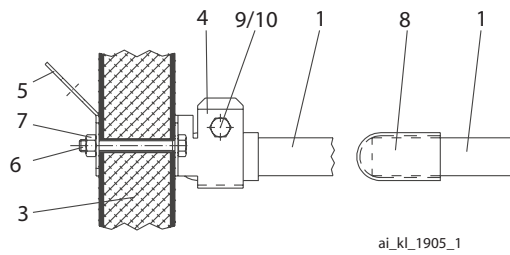
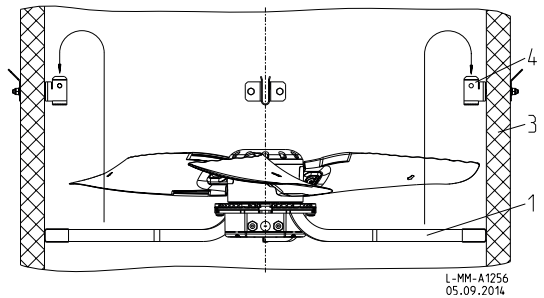

Figure 2
figure 3
Tighten the mounting bracket (4) and the support bracket (5) **fig. 2** with screws (6) only so far that the mounting bracket and support bracket do not dig into the chimney wall (3).
Self-locking nuts (7) are used for securing the screws. The enclosed protective caps (8) are to be pushed onto the ends of the fan supports (1), **fig. 2**.
Feed the fan (1) into the chimney in accordance with **fig. 3**, and center it in the mounting bracket (4). In addition, the support is to be secured in accordance with **fig. 2** by using bolts (9/10). The four support clamps (5) are used as support eyelets for additional fixings (e.g. by standing ropes) in order to relieve the chimney of the weight of greater fans.